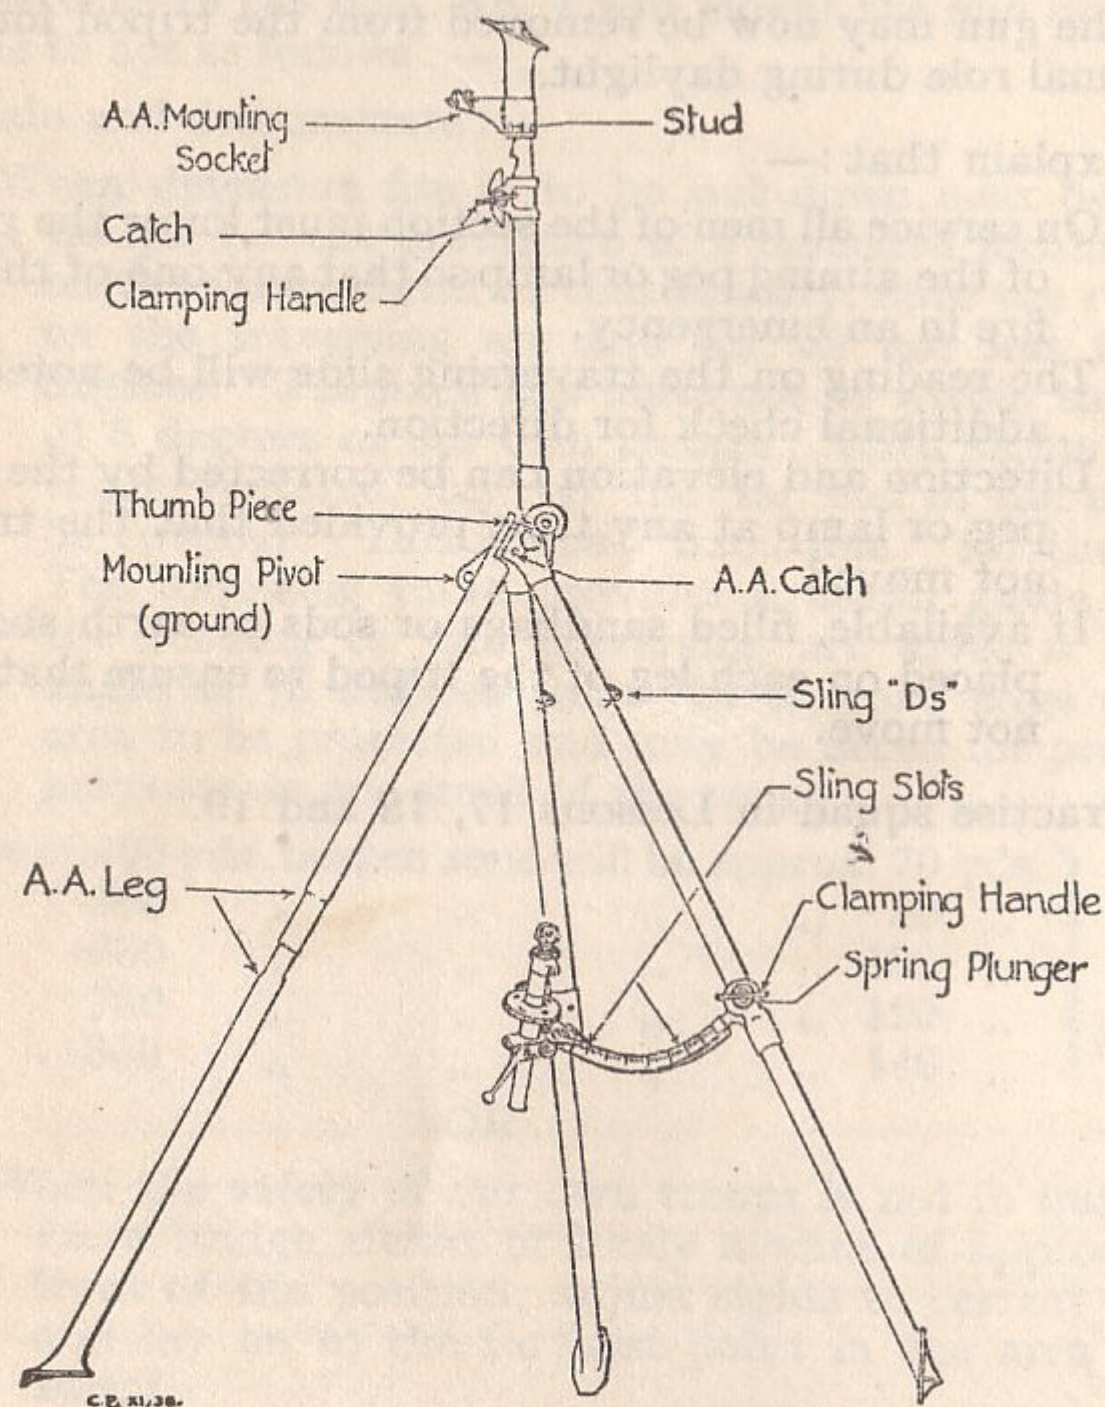

FIG. 12.—The Tripod, Anti-Aircraft.
1. Description of tripod, anti-aircraft (see Fig. 12).